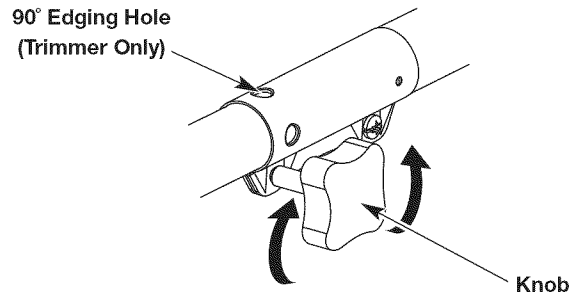
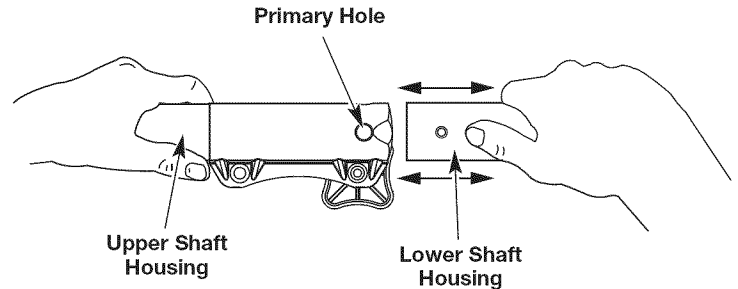

Fig. 1
Fig. 3
1. Turn the knob counterclockwise to loosen (Fig. 1).
2. While firmly holding the attachment, push it straight into the Convertible™ coupler until the release button snaps firmly into the primary hole (Fig. 3).
3. Turn the knob clockwise to tighten (Fig. 1).
CAUTION: Before operating this unit, be sure that the release button is fully snapped into the primary hole (Fig. 3), and that the knob (Fig. 1) is securely tightened.
For decorative edging with the line head trimmer attachment, lock the release button of the attachment into the 90° hole (Fig. 1).
3. While firmly holding the upper shaft housing, pull the attachment straight out of the Convertible™ coupler (Fig. 3).